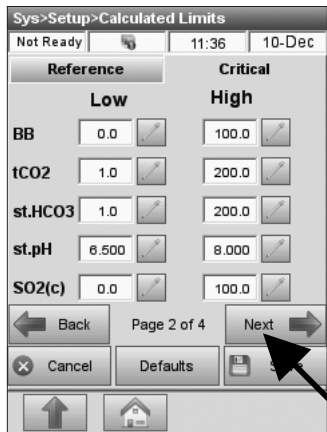

Fig. 3-43 Critical Limits 2
- Press to access pages 2, 3 and 4 with the remaining parameters (Figs. 3-43 and 3-44) and press to accept the new values.